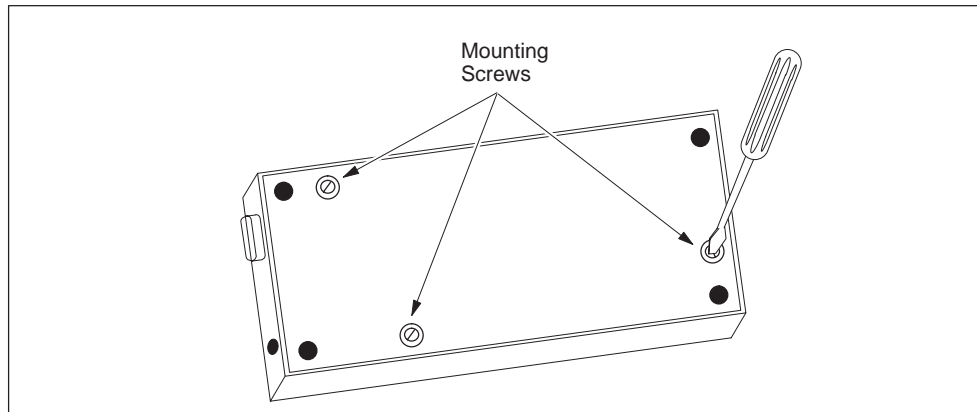

Figure 1-3 Removing the Three Mounting Screws
1. Remove the three screws from the rear of the TD 200 using a flat-head screwdriver. See Figure 1-3.